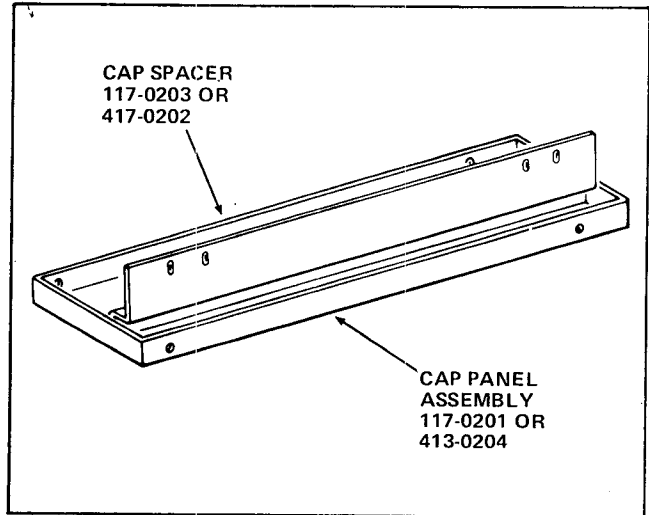

FIGURE 4
1. Lay the Cap Panel Assembly, part number 117-0201, face down on a flat surface with one of the long sides toward you. See Figure 4.
1. Lay the Cap Panel Assembly, part number 413-0204, face down on a flat surface with one of the long sides toward you. See Figure 4.